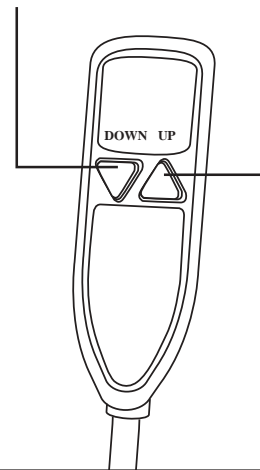
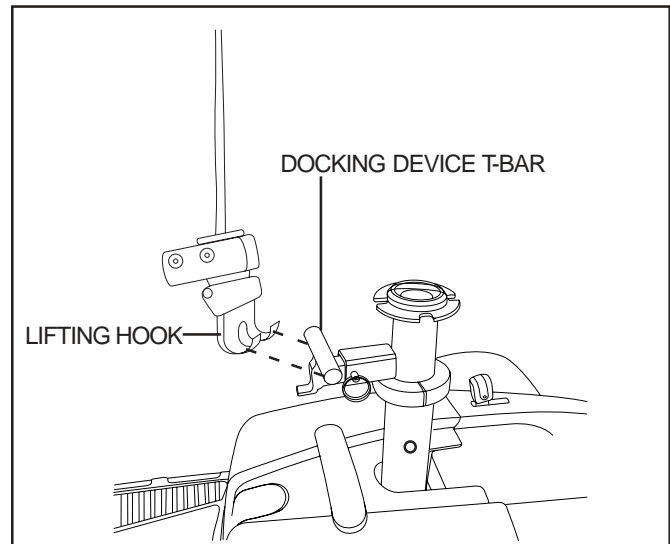

Figure 13. Hand Control
Figure 14. Lifting Hook Placement
3. Operate the lift (use the hand control—see **figure 13**) in the downward direction until the lifting hook reaches the T-bar. The lift strap should drop straight down to the T-bar. See **figure 14**.
4. Place the lifting hook onto the docking device T-bar. See **figure 14**.